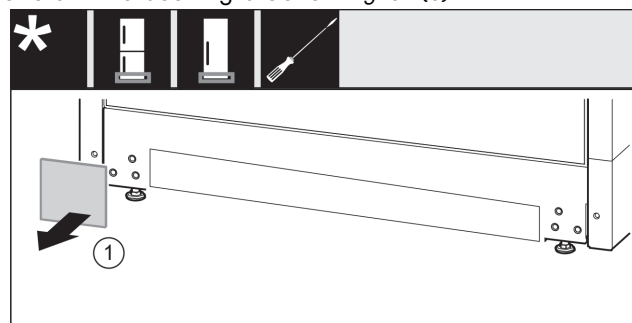

Fig. 33
- ▶ Take off the cover. Fig. 33 (1)